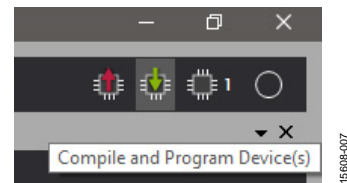

Figure 7. Compile and Program Device(s) Icon
3. After loading the file in the GUI, click the **Compile and Program Device(s)** icon (see Figure 7) to load the configuration to the ADM1266 nonvolatile memory (NVM).